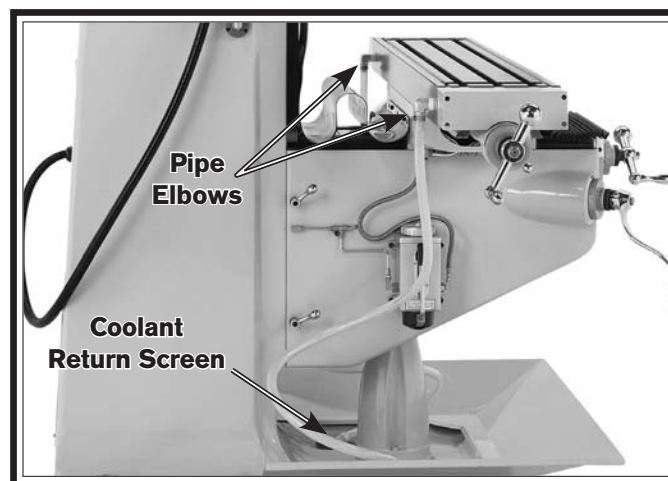

Figure 13. Coolant return hose connections.
2. Use Teflon tape or pipe sealant on the threads of the pipe elbows, then install them into the coolant drain holes located on both ends of the table, as shown in **Figure 13**.
5. Loosen the hose clamp screws above the coolant return screens in the base (see **Figure 13** on the previous page), insert the hoses so that they will drain into the screens, then re-tighten the clamp screws to secure them in place.